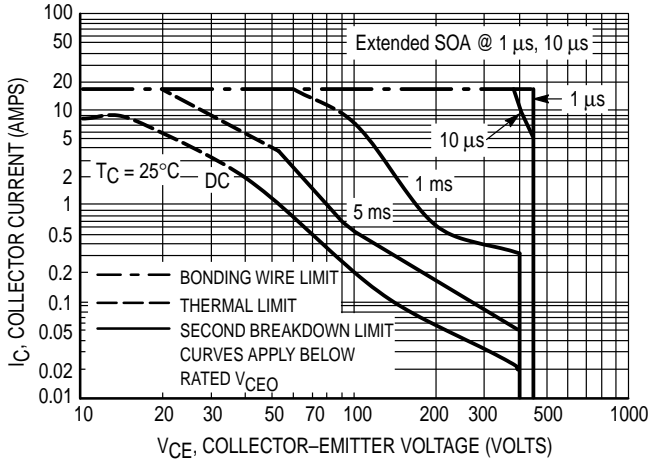
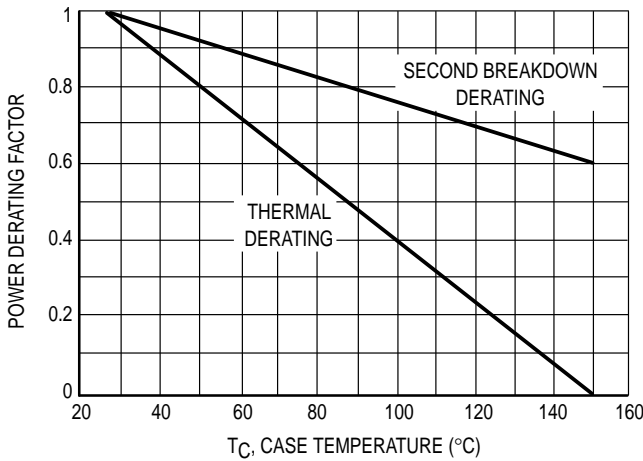

Figure 6. Maximum Forward Bias Safe Operating Area
Figure 8. Forward Bias Power Derating
The data of Figure 6 is based on $T_C = 25^\circ\text{C}$; $T_{J(pk)}$ is variable depending on power level. Second breakdown pulse limits are valid for duty cycles to 10% but must be derated when $T_C \geq 25^\circ\text{C}$. Second breakdown limitations do not derate the same as thermal limitations. Allowable current at the voltages shown on Figure 6 may be found at any case temperature by using the appropriate curve on Figure 8.
The sustaining or active region voltage requirements in switching applications occur during turn-on and turn-off. If the load contains a significant capacitive component, high current and voltage can exist simultaneously during turn-on and the pulsed forward bias SOA curves (Figure 6) are the proper design limits.
- (1) The device thermal limitations are not exceeded.
- (2) The turn-on time does not exceed 10 µs (see standard pulsed forward SOA curves in Figure 6).